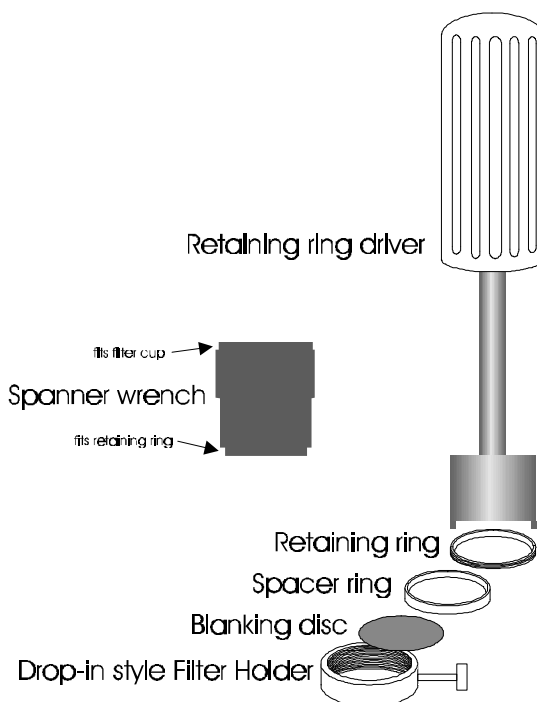

Figure 9. Filter holder components
There are at least two components installed into each filter cup or holder before the Lambda 10-2 is shipped: a threaded retaining ring to secure the filter into the cup (or holder) and a spacer ring. In all but one of the filter cups and in one of the filter holders there will also be a blanking disc. Figure 9 depicts these items using the drop-in filter holder as an example.
- **Retaining ring.** This ring is threaded on its outside surface and has two slots on its top edge. The two slots are meant to be used for the removal and installation of the retaining ring when using the retaining ring driver or spanner wrench that is provided with the Lambda 10-2 (shown in fig. 9).